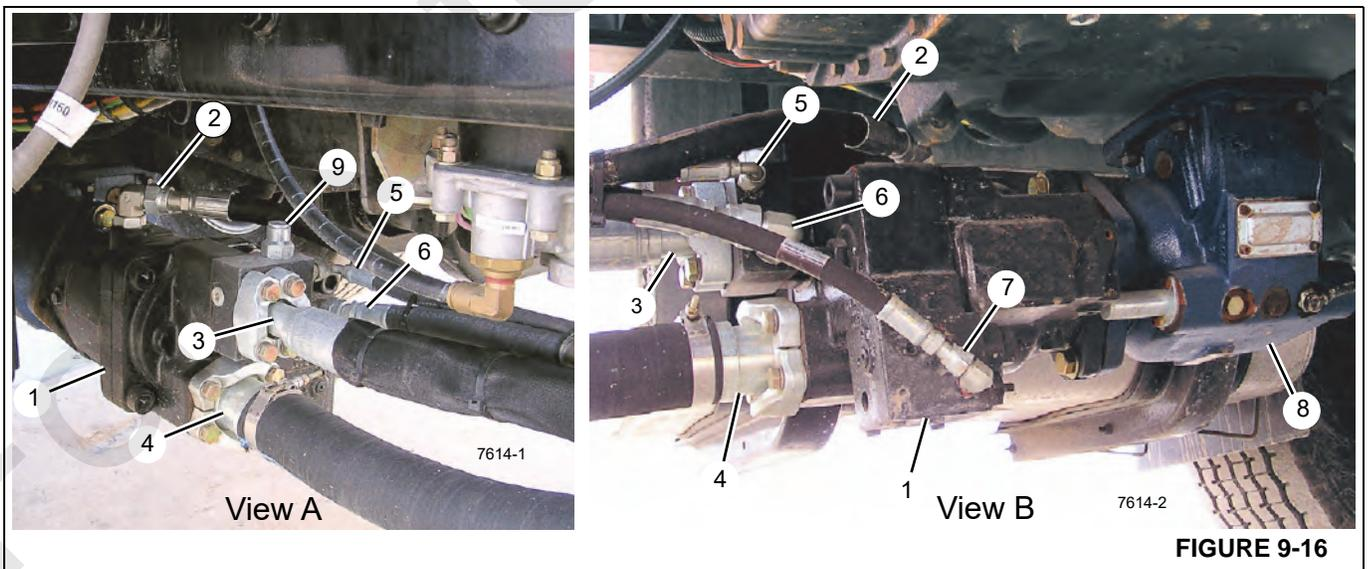

FIGURE 9-16
See Figure 9-16 for the following steps.
The hydraulic system pressure is supplied by a hydraulic pump (1, Figure 9-16) mounted on the truck power take-off (PTO) (8).
10. If using the configuration shown in Figure 9-16 be sure to position the case drain port (2) at the highest point above ground level.
14. Remove the dust covers from the hydraulic pump inlet and outlet ports and install the hydraulic fittings and lines as shown in Figure 9-16.
NOTE: Figure 9-16, View A, shows the left (driver's) side of the hydraulic pump installation and View B shows the right (passenger) side of the hydraulic pump installation.